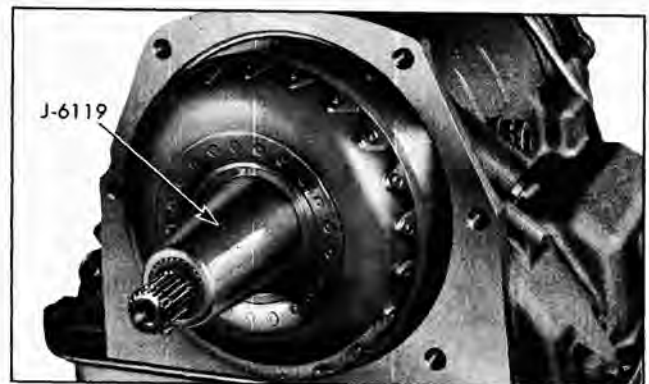

Fig. 173—Flywheel Housing Bushing and Seal Protector
3. Place protector J-6119 over intermediate shaft (Fig. 173).